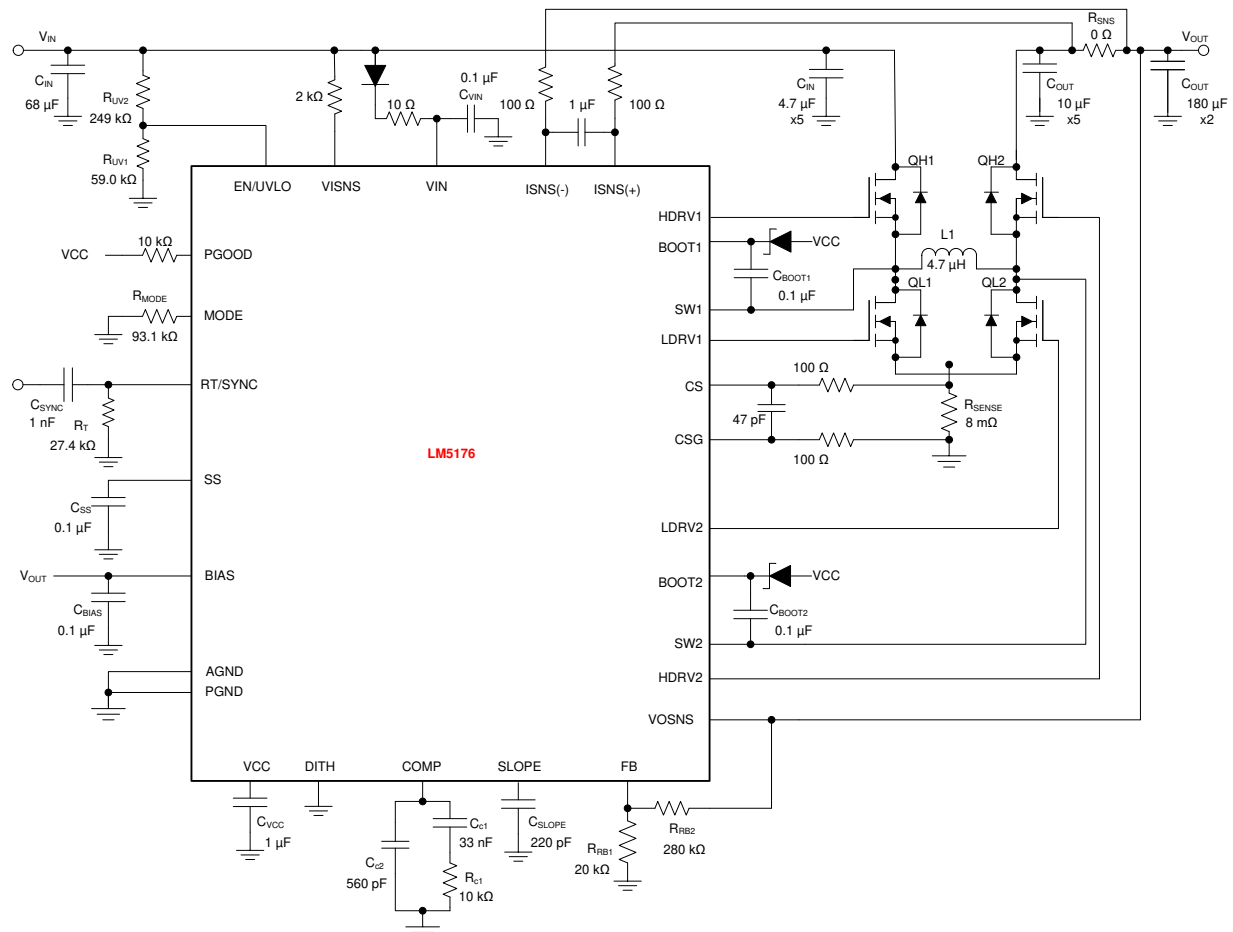

Figure 25. LM5176 Four-Switch Buck Boost Application Schematic
A filter network as shown in Figure 25 is often used across the ISNS(+) and ISNS(-) pins to filter the ripple in the average current sense signal.
For application where input voltage is higher than 40 V, a 2-k Ω resistor in series with the VISNS pin is required as shown in Figure 25.
The LM5176 has a gm error amplifier for loop compensation. The gm amplifier output (COMP) range is 0.3 V to 3 V. Connect an R_{C1} - C_{C1} compensation network between COMP and ground for type II (PI) compensation (see Figure 25). Another pole is usually added using C_{C2} to suppress higher frequency noise and switching frequency ripple.
The low-side gate drivers are powered from VCC and the high-side gate drivers HDRV1 and HDRV2 are powered from bootstrap capacitors C_{BOOT1} (between BOOT1 and SW1) and C_{BOOT2} (between BOOT2 and SW2), respectively. The C_{BOOT1} and C_{BOOT2} capacitors are charged through external Schottky diodes connected to the VCC pin as shown in Figure 25.
Typically, a combination of ceramic and bulk capacitors is needed to provide low ESR and high ripple current capacity. The complete schematic in Figure 25 shows a good starting point for C_{OUT} for typical applications.
The maximum RMS current occurs at $D = 0.5$, which gives $I_{CIN(RMS)} = I_{OUT} / 2 = 3$ A. A combination of ceramic and bulk capacitors should be used to provide a short path for high di/dt current and to reduce the output voltage ripple. The complete schematic in Figure 25 is a good starting point for C_{IN} for typical applications.
For some application circuits, it can be required to add a filter network to attenuate noise in the CS and CSG sense lines. See Figure 25 for typical values. The filter resistance should not exceed 100Ω .